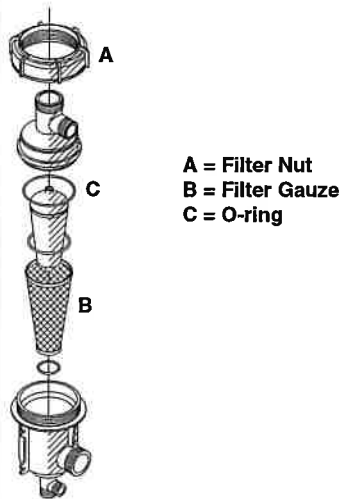

Fig 35
- 1 Unscrew the filter nut (A Fig 35) and open the filter.
- 2 Check the filter gauze (B Fig 35), clean if necessary and check there are no residues on any part of the filter/hoses.
- 3 Lubricate the O-ring (C Fig 35).